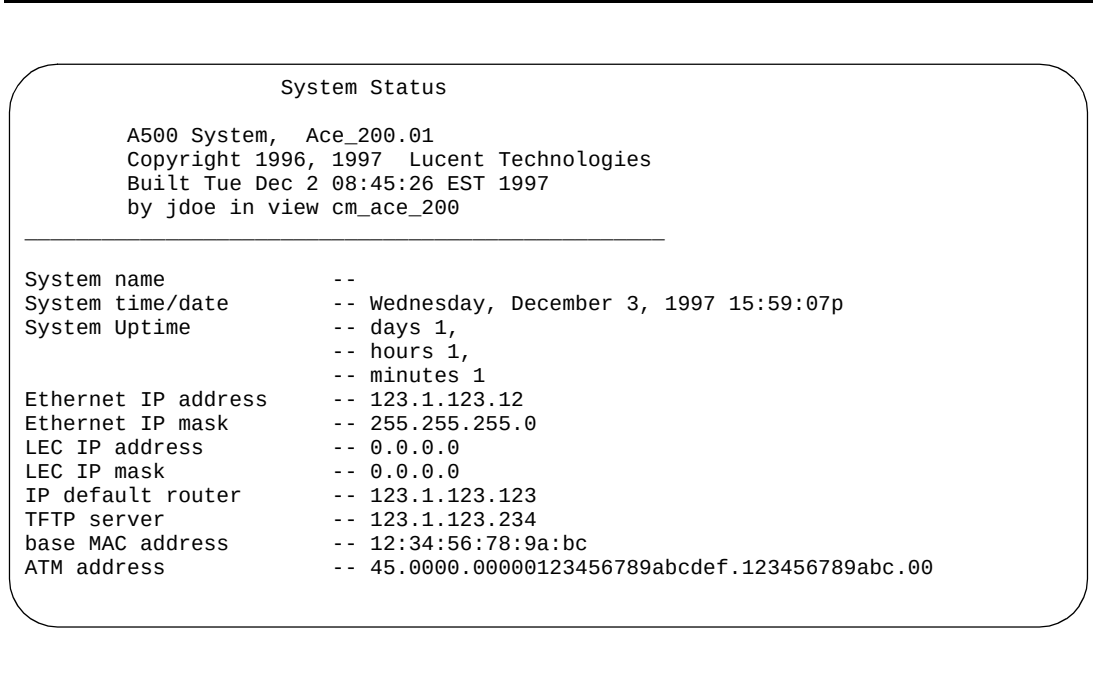

Figure 1-32. A500 screen output for status command
5. Enter **status** at the A500: prompt. Figure 1-32 shows the output from the status command.